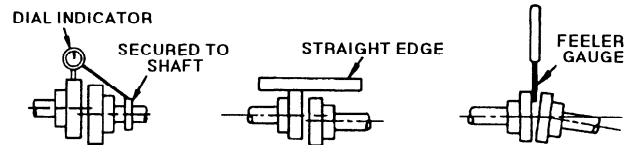

Figure 2 - Alignment Check
2. Alignment is critical to good pump performance and is frequently disturbed during shipment, handling or installation. Before operating the pump, check the alignment between the driver, gear reducer, and the pump (see Figure 2).